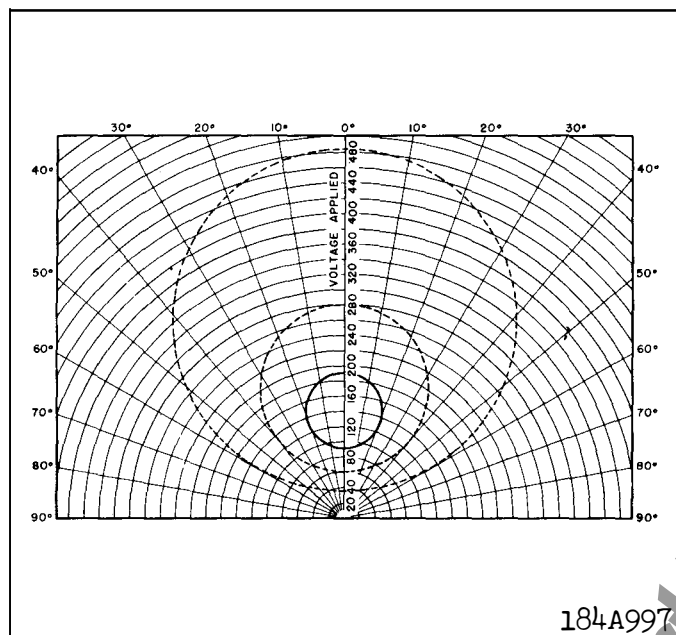
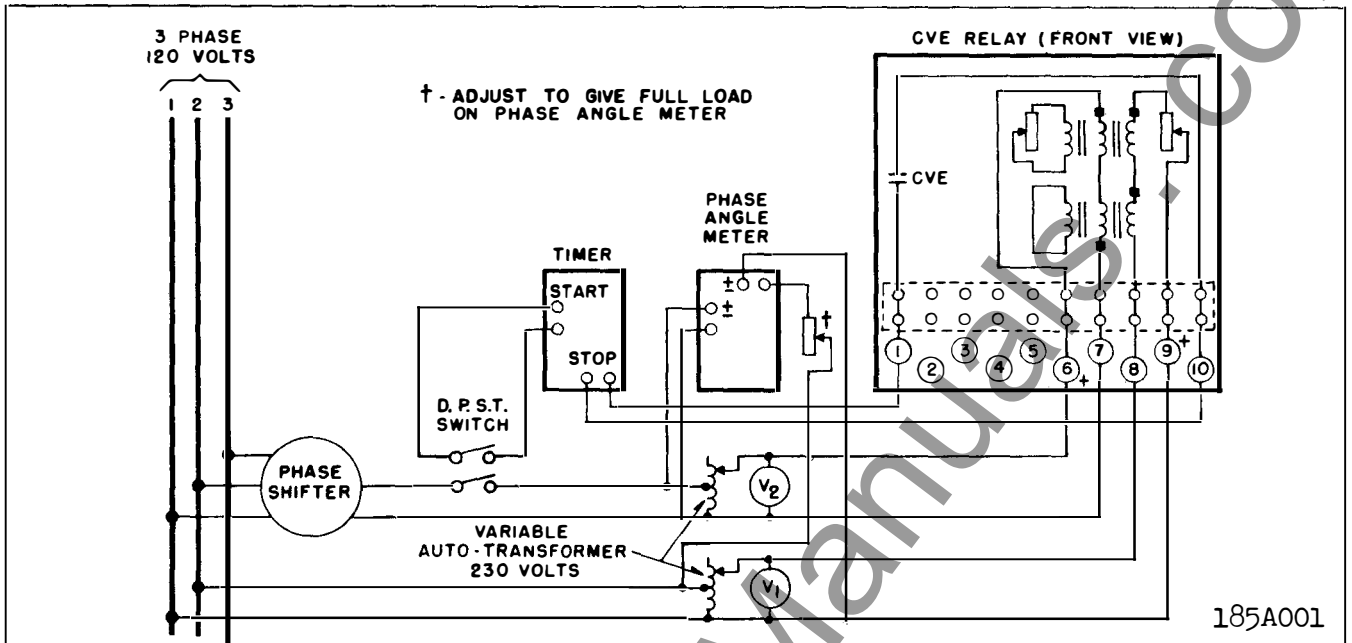

Fig. 8 Typical Voltage-Angle Characteristic of CVE for Various Closing Angle Settings. Rated Voltage on One Circuit.
Fig. 12 Diagram of CVE Test Connections.
2. Operating Circle - Connect the relay per the test diagram of Fig. 12. The contacts should just close when V₂ is within ± 4 volts of the values shown in Fig. 8 for different angles on the 20 degree circle when V₁ is equal to rated voltage.
4. Single Phase Test - Where a phase shifter and phase angle meter are not available, the relay can be tested with in-phase voltages. Connect the inputs of the variable auto-transformers of figure 12 to a common source. To check the operating circle, apply V₁ equal to rated voltage and vary V₂. The relay contacts should just close when V₂ is raised to 94 ± 4 volts and should just open when V₂ is increased to 190 ± 4 volts.
3. Spurious Torque Adjustments — With the relay set as per the preliminary adjustments, open the lag coil circuit of the rear electromagnet. This can be done by opening the screw connection on the lag coil of the rear electromagnet or by inserting a piece of insulating material under the adjustable point of the left hand resistor (front view). Connect the relay to test circuit of Fig. 12 and apply rated voltage at zero phase angle on both circuits. With the right hand plug all the way in, adjust the left hand plug of the rear electromagnet such that the disc does not move from the number 11 timedial position. This can be determined by no movement of the disc when the time dial is moved beyond the number 11 position.
2. Spurious Torque Adjustments — With the relay set as per the preliminary adjustments, open the lag coil circuit of the rear electromagnet. This can be done either by opening the screw connection on the lag of the rear electromagnet or by inserting a piece of insulating material under the adjustable point of the left hand resistor (front view). Apply rated voltage at zero phase angle to both circuits of the relay. (This can be done by connecting the inputs of the variable auto-transformers of Fig. 12 to a common source. With
With V_1 in Fig. 12 equal to rated voltage the following approximate voltages should be obtained across the coils of the 120 volt relay. Relay set